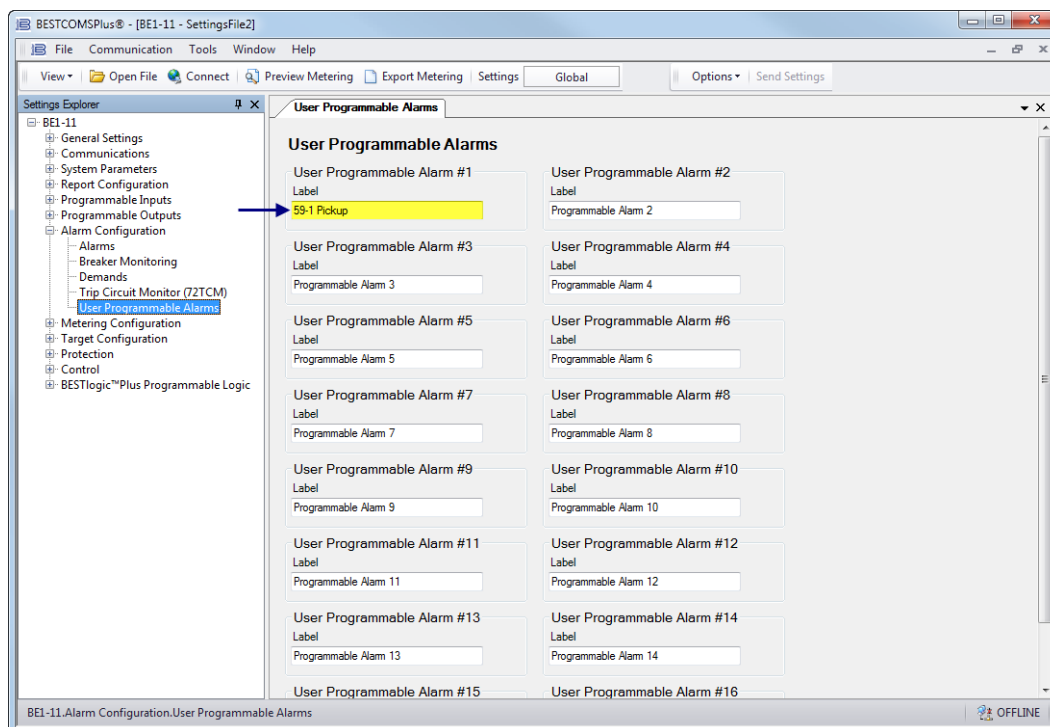

Figure 2-18. User Programmable Alarms Screen
- Step 12: In the Settings Explorer, expand Alarm Configuration, User Programmable Alarms, and name User Programmable Alarm #1 (59-1 Pickup) as shown in Figure 2-18.